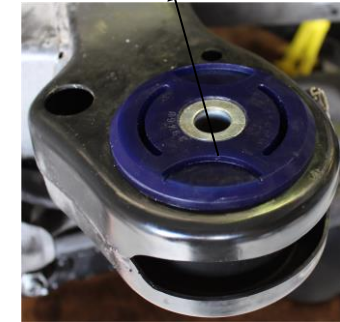

Figure 2: (a)
- For rear mount, make sure the recess of 3946U is position according to Figure 2(c)